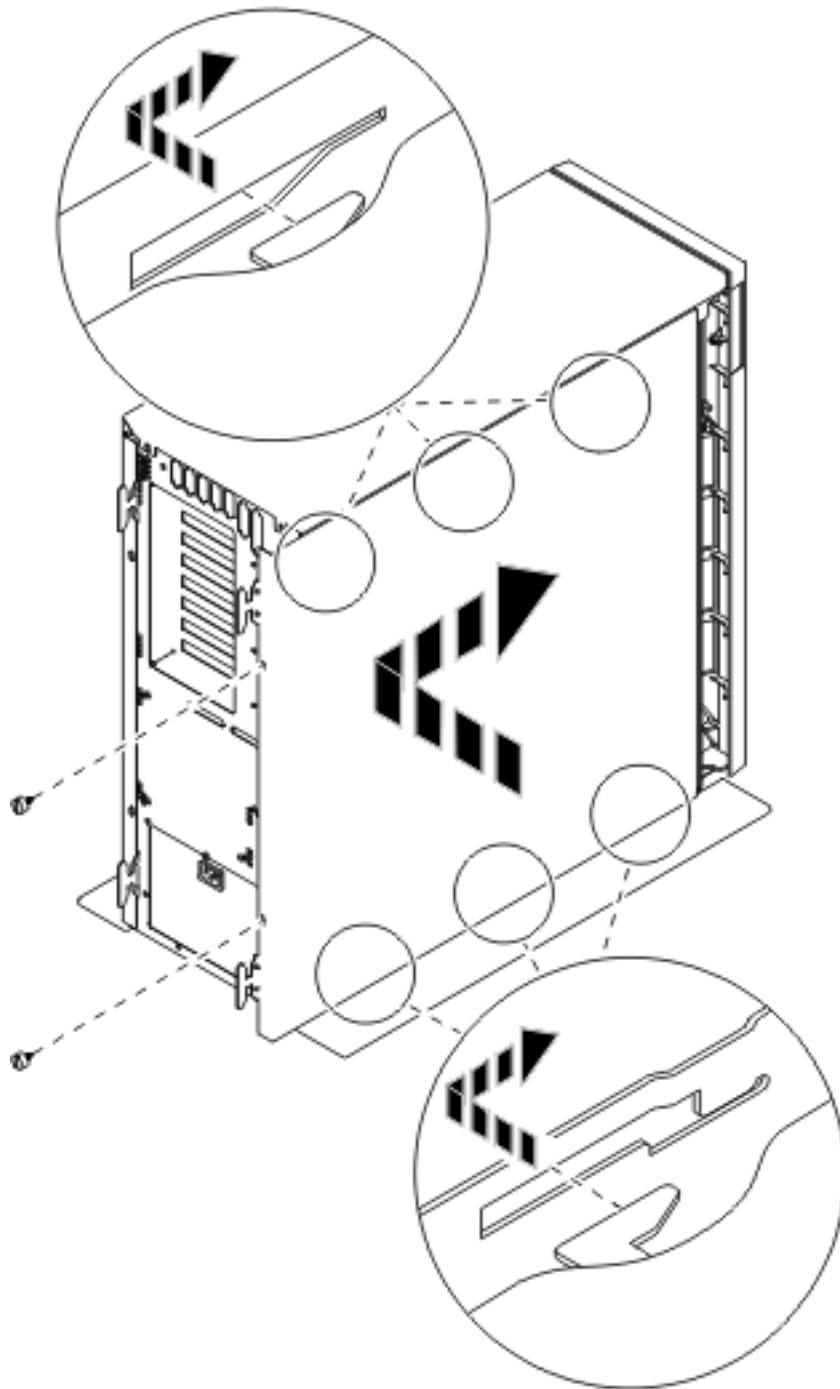

Figure 3. Install system unit side cover
- __ 12. **Figure 3** shows how to install the system unit side cover by aligning the tabs on the top and bottom edge. Press forward to make sure that all tabs enter the slots. Slide the cover toward the front of the system unit until it stops and install the screws.